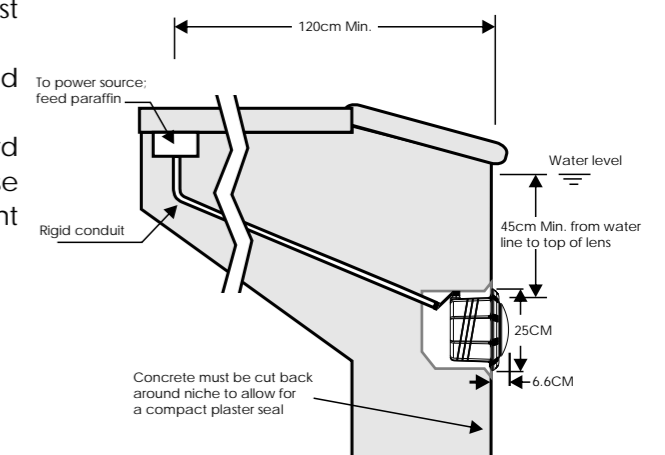

Figure 1.
A) Preparatory steps which must be completed by the electrician before light is installed, see Figure 1.
a) The junction box, or the low voltage transformer for 12 volt Underwater Light model is to be located at least 120CM from the edge of the pool, see Figure 1.
- e) The mounting bracket must be properly installed so that the top edge of the Underwater Light lens is at least 45CM below the surface of the water in the pool, see Figure 1.
- 1) Locate position on a vertical wall where light is to be installed. The top of the light lens must be 45CM below normal water level, see Figure 1.